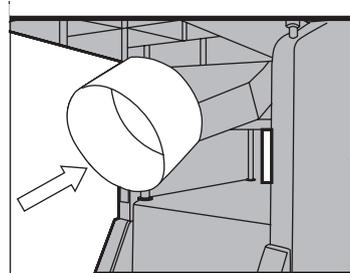

Fig 17
12) Finally, fit the extraction port adapter (E) by simply sliding it over the extraction port as in Fig 17.